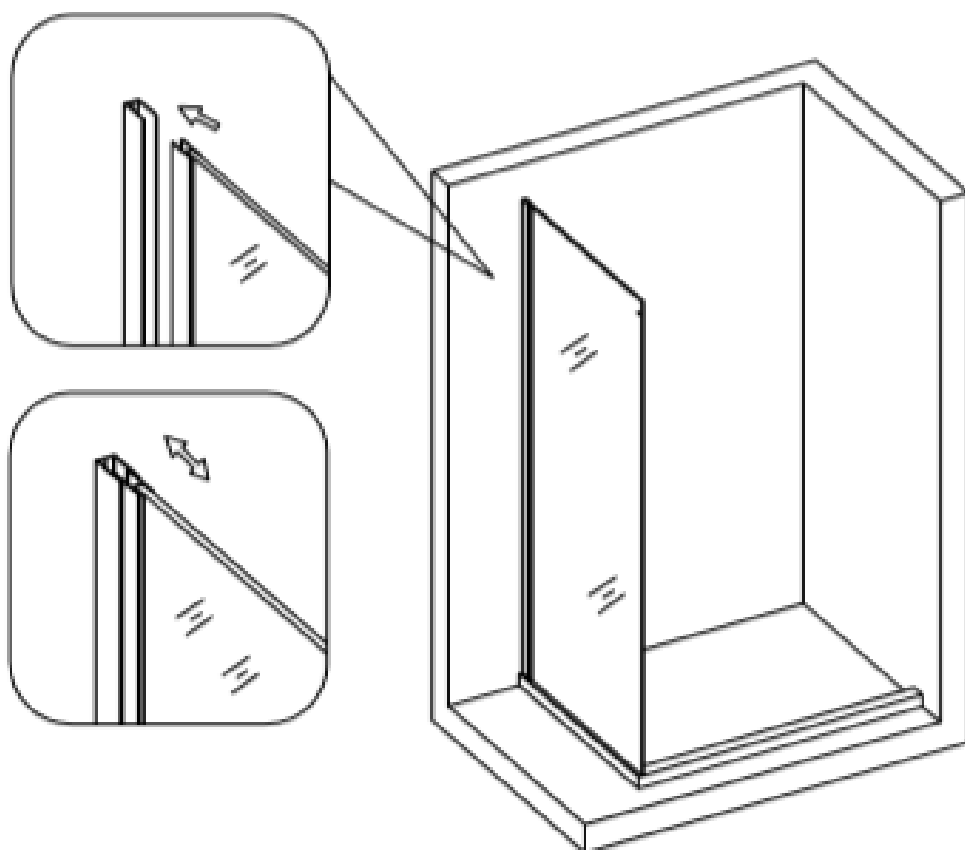

Fig 4
4. Place the return panel into wall profile and adjust the position. (Fig 4)